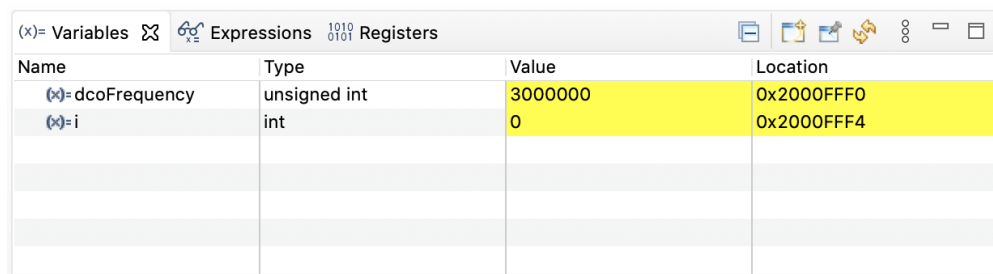

Figure 14: Variables window in debug mode.
- Click on the Variables tab in the watch window as shown in Figure 14. Two variables should be visible: `dcoFrequency` and `i`.